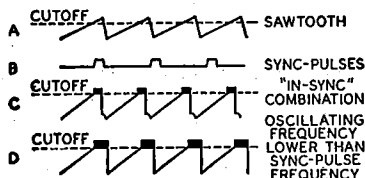

Fig. 102—Sawtooth and sync pulses in synchroguide circuit.
$V_1$ . The waveforms shown in Fig. 102 illustrate the sawtooth and sync pulses (A and B) and their proper "in-sync" combination (C). The sync pulse occurs partly during the portion of the sawtooth voltage in which the triode  $V_1$  draws current. Any shift in sync pulse as it is superimposed on the sawtooth, therefore, will affect the amount of conduction of the control tube. A change in control-tube conduction ultimately affects the bias on the oscillator-tube grid by changing the voltage to which the capacitor  $C_1$  in the cathode circuit may charge. An increase in the positive bias increases the frequency of oscillation.
For example, waveform D in Fig. 102 illustrates a condition in which the sawtooth voltage is advanced in phase with respect to the sync pulses. The widening of the pulse which occurs at the corner of the sawtooth waveform allows the control tube to conduct more current and, consequently, allows the capacitor  $C_1$  to charge to a higher voltage. This increased reference voltage also appears in the grid circuit of  $V_2$  and makes the grid more positive. The increased grid voltage then speeds up the frequency of oscillations until proper synchronization results.